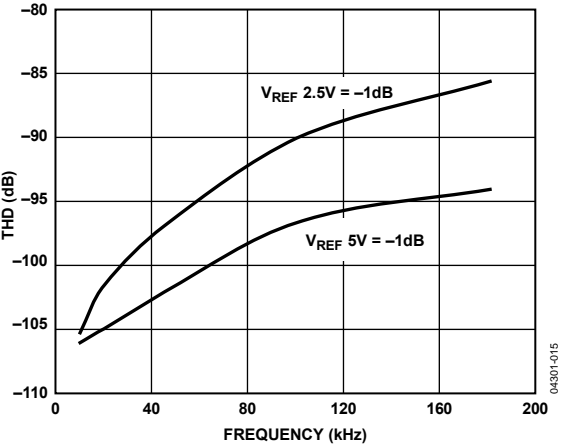

Figure 15. THD vs. Frequency
- For ac applications, the driver needs to have a THD performance suitable to that of the AD7683. Figure 15 shows the THD vs. frequency that the driver should exceed.